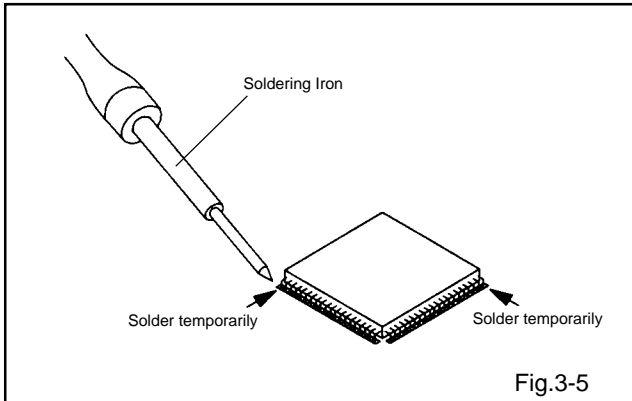

Fig.3-5
1. Take care of the polarity of new IC and then install the new IC fitting on the printed circuit pattern. Then solder each lead on the diagonal positions of IC temporarily. (Refer to Fig. 3-5.)